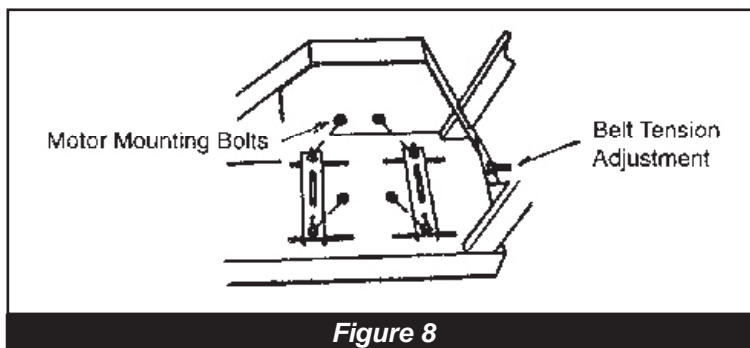

Figure 8
- To tension belts, loosen motor mounting hardware slightly. Either push motor towards the rear of the saw (handle bar side) until the belts are tight or on the models with a belt tensioning adjustment bolt, use bolt to adjust the motor until the belts are tight. Re-torque the engine mounting hardware *(see Figure 8 below)*.